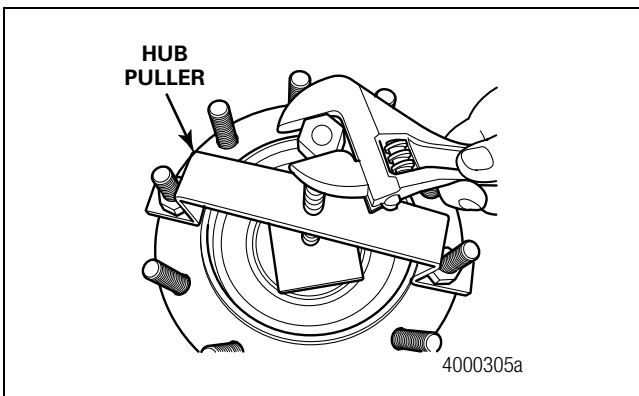

Figure 6.59
3. Use a wrench and the hub puller to install the hubcap into the hub unit. Figure 6.59.